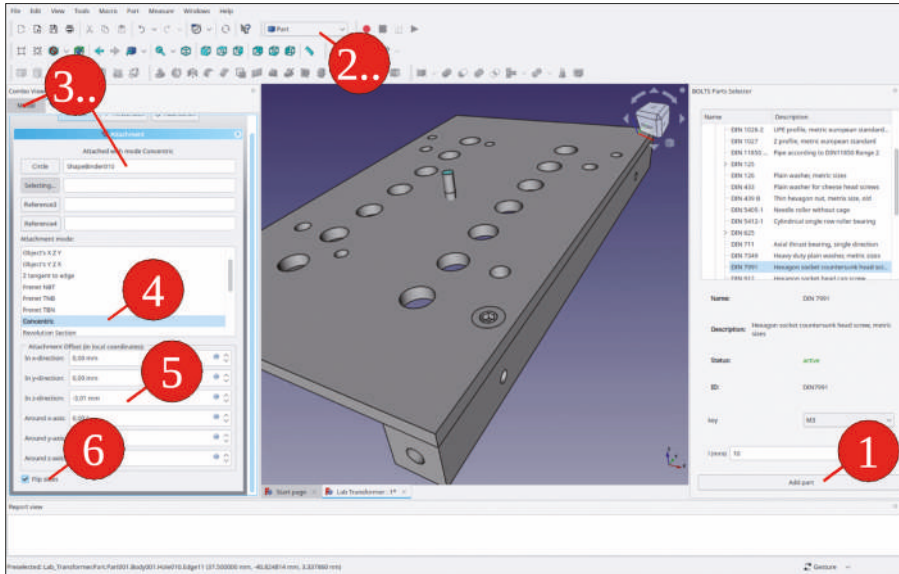

Figure 9-149
7. Switch to the 'Part' workbench. Again, mark each screw and select 'Part | Attachment...' from the main menu. As described in the previous section, attach the first screw to one of the new shape binders, selecting the attachment mode 'Concentric', an attachment offset of -3.01 mm (Figure 9-149) and checking the 'Flip side' checkbox.